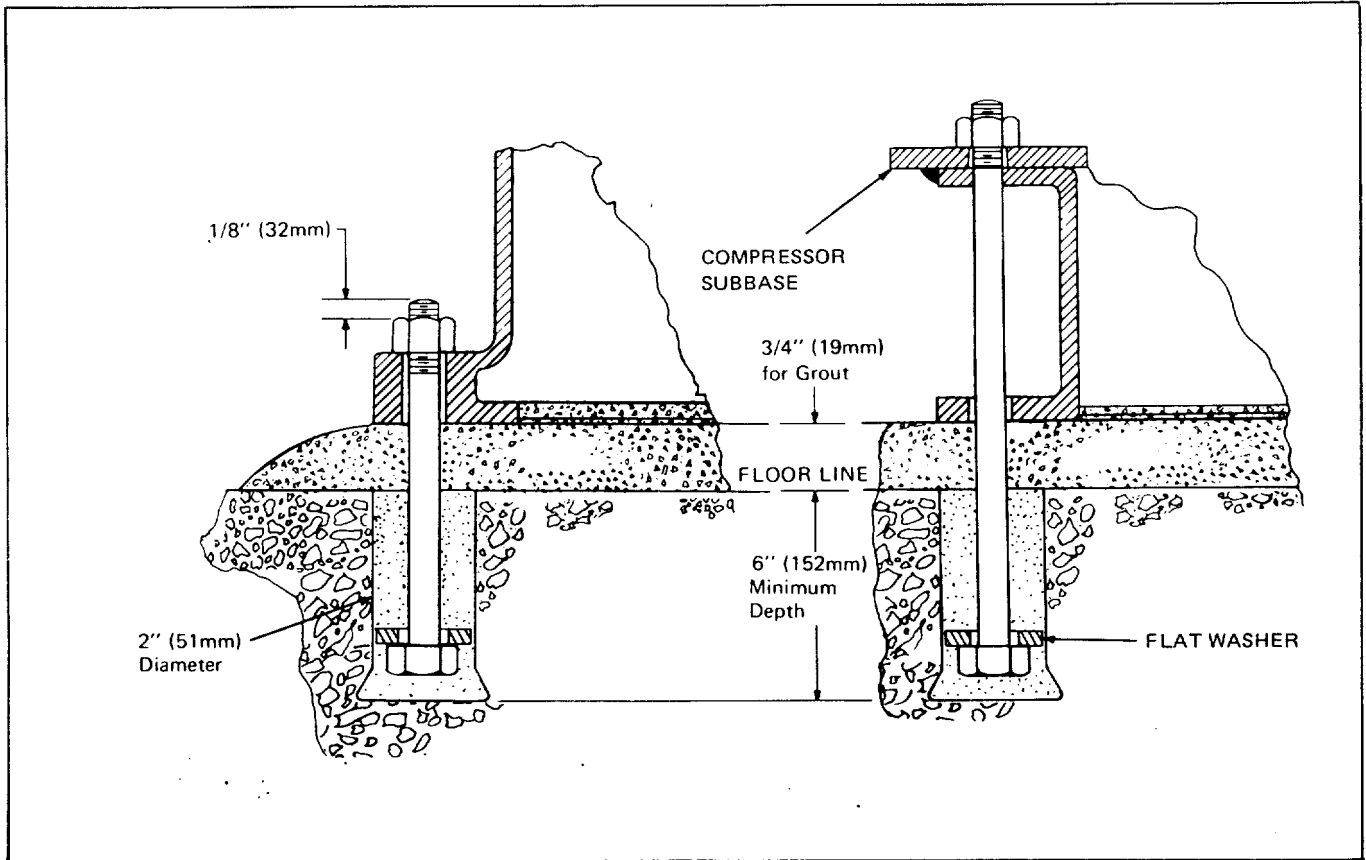

Figure 4. Alternate Foundation Bolting
(See Figure 4.)
- d. Lift the compressor and place the hold down bolts in its base with about 1/8 inch (3.2 mm) of bolt projecting above the nut. Set the compressor in place with the bolts hanging in the holes (see Figure 4).